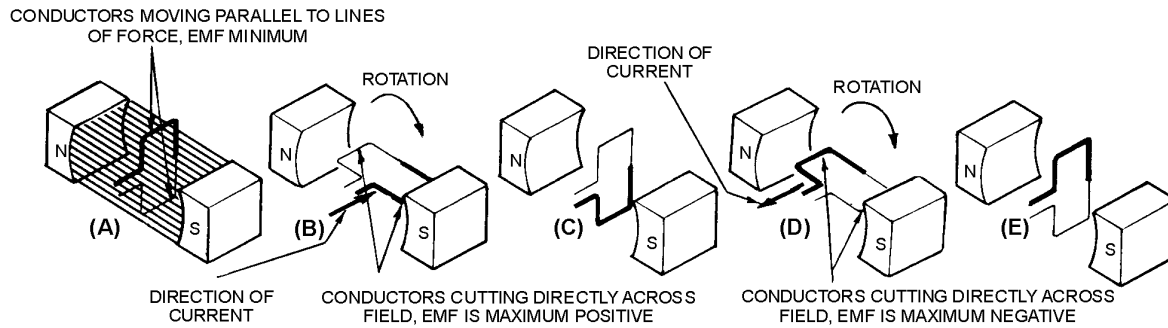

Figure 1-7.—Simple alternating-current generator.
Figures 1-7 and 1-8 show a suspended loop of wire (conductor) being rotated (moved) in a clockwise direction through the magnetic field between the poles of a permanent magnet. For ease of explanation, the loop has been divided into a dark half and light half. Notice in (A) of the figure that the dark half is moving along (parallel to) the lines of force. Consequently, it is cutting NO lines of force. The same is true of the light half, which is moving in the opposite direction. Since the conductors are cutting no lines of force, no emf is induced. As the loop rotates toward the position shown in (B), it cuts more and more lines of force per second (inducing an ever-increasing voltage) because it is cutting more directly across the field (lines of force). At (B), the conductor is shown completing one-quarter of a complete revolution, or 90° , of a complete circle. Because the conductor is now cutting directly across the field, the voltage